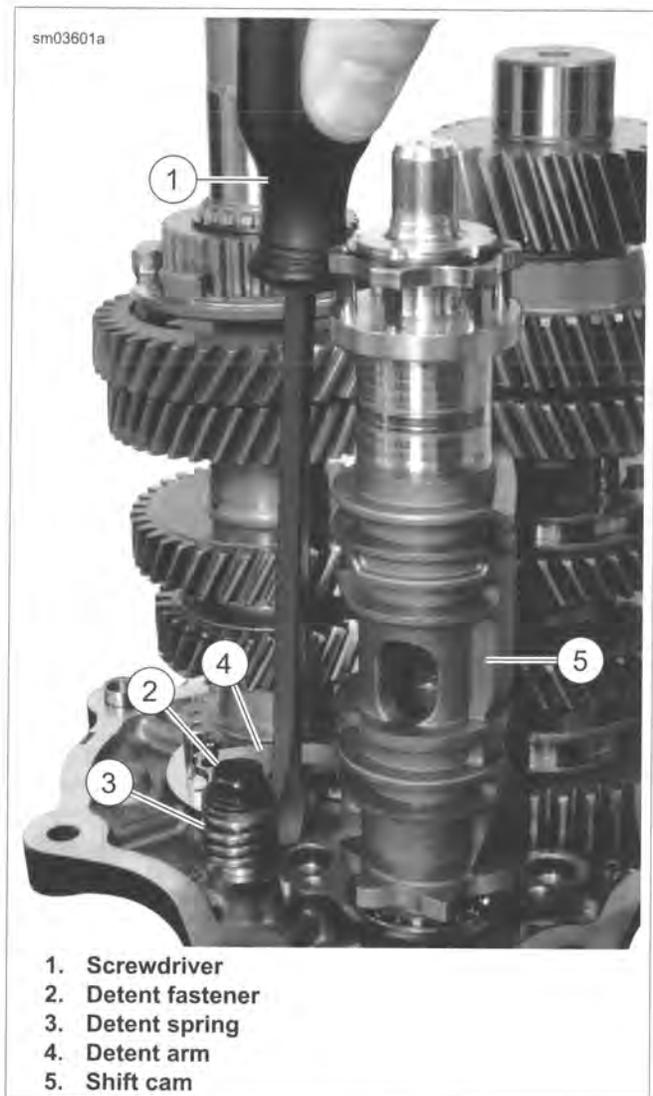

Figure 6-30. Detent Assembly
- See Figure 6-30. Using screwdriver (1), pull detent arm back to allow installation of shift cam assembly.
7. Install shift cam assembly (5).